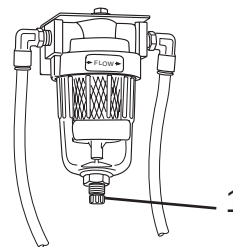

Figure 110
1. Locate the drain fitting (Figure 110, Item 1) on the bottom of the coalescing filter.